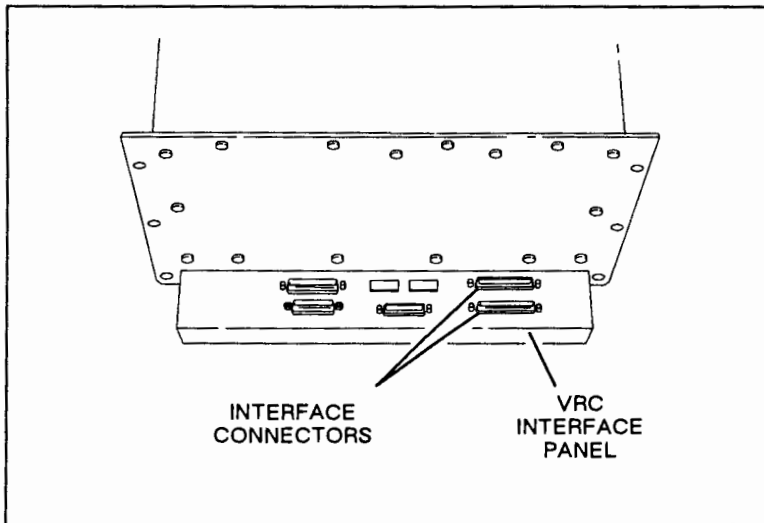

Figure 2-10. VRC Interface Connectors
- h. Attach the straight-shaped end of a VRC-to-print engine cable to the VRC I/F connector on the VRC interface panel. The VRC interface panel is shown in Figure 2-10. Using a #1 Phillips screwdriver, secure the connector.